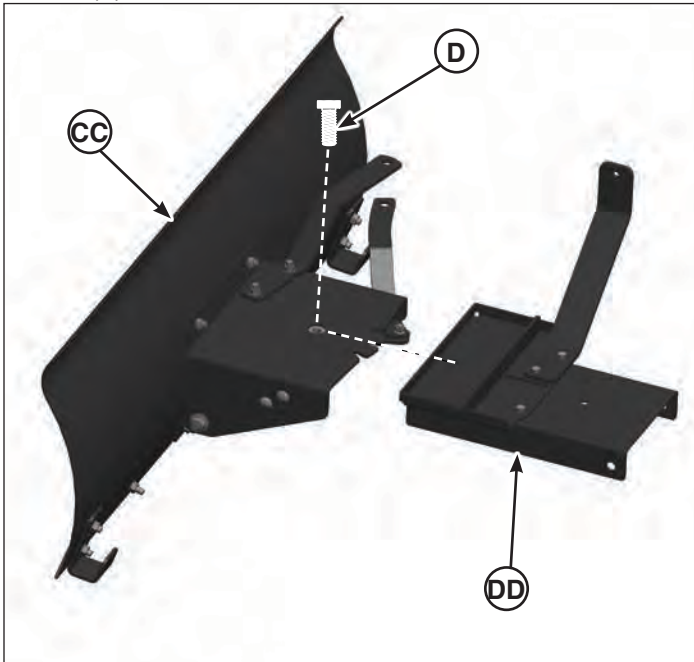

Figure 9
- Align the pivot assembly (**DD**, Figure 9) with the holes on the blade assembly, and install the capscrew (**D**).